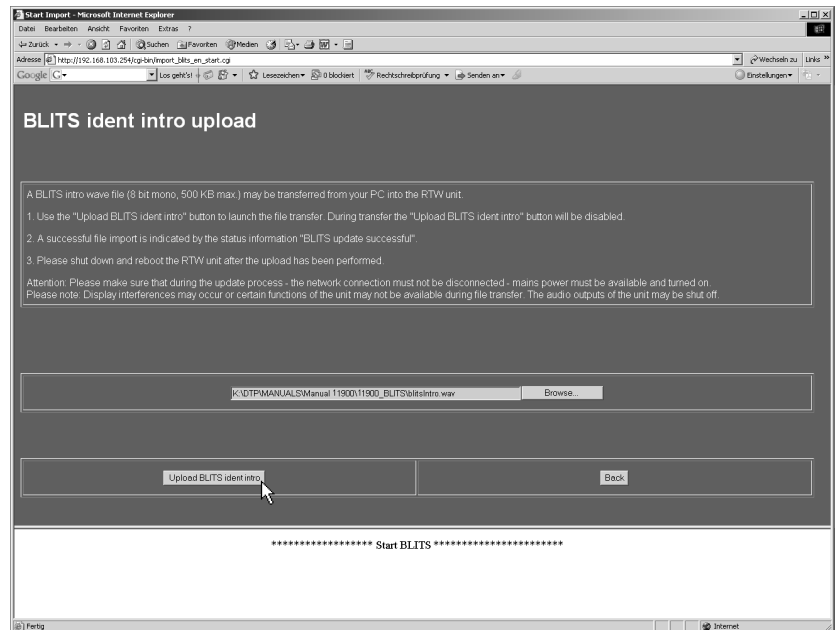

Fig. 8-28: Starting the upload
5. A click to the Upload BLITS ident intro button starts the data transfer to the Surround Control units (see Fig. 8-28). If the Upload BLITS ident intro button is not visible move the menu page upward by using the scrollbar on the right. **Please make sure that no interruption of the network access or supply power occurs during the download sequence.**